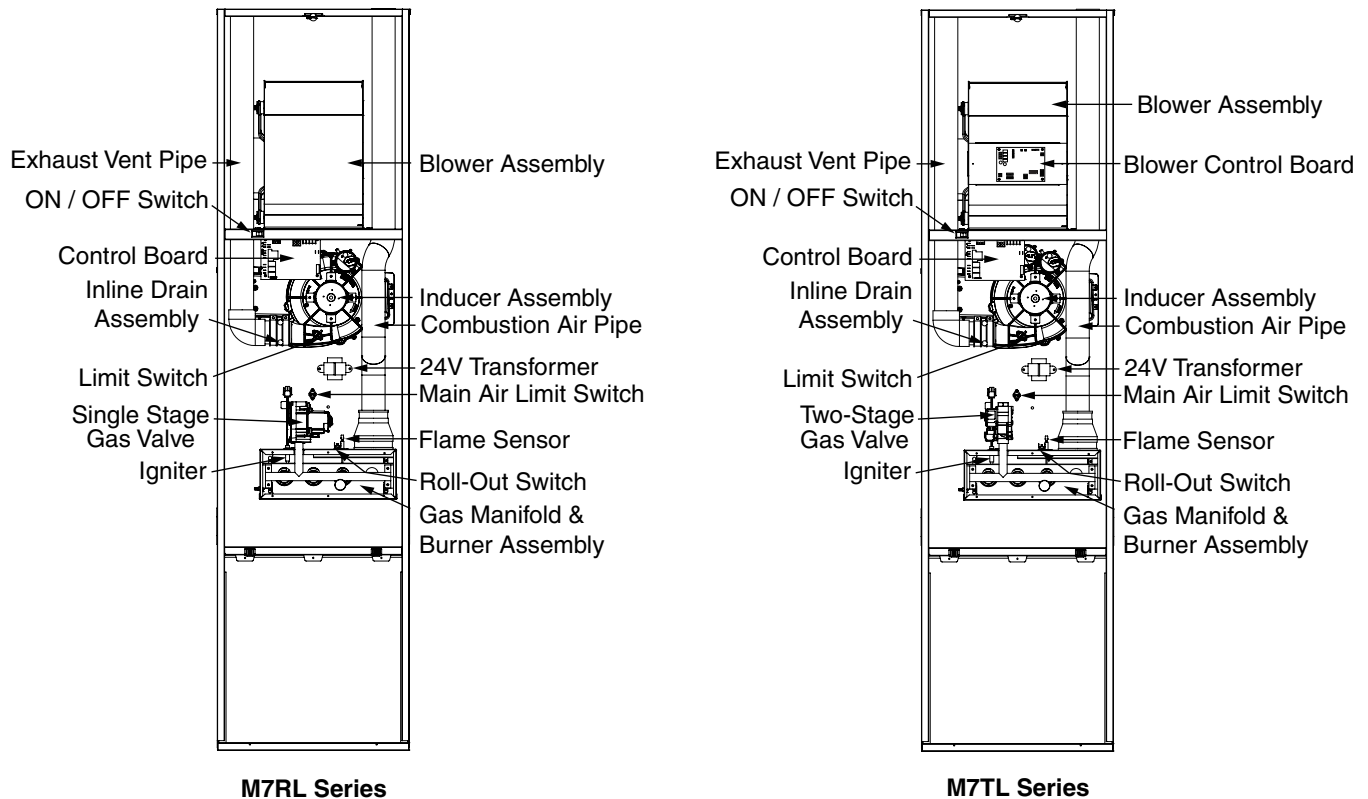

Figure 3. M7RL & M7TL Furnace Components
2. Is the On/OFF switch (inside the blower compartment) turned on? See Figure 3, \(page 8\).
The furnace components shown in Figure 3 will help identify and locate various parts of the furnace. The component you need to familiarize yourself with is the gas valve. You will use this to turn the furnace on and off. There are no user serviceable parts. All repairs must be done by a licensed HVAC technician.